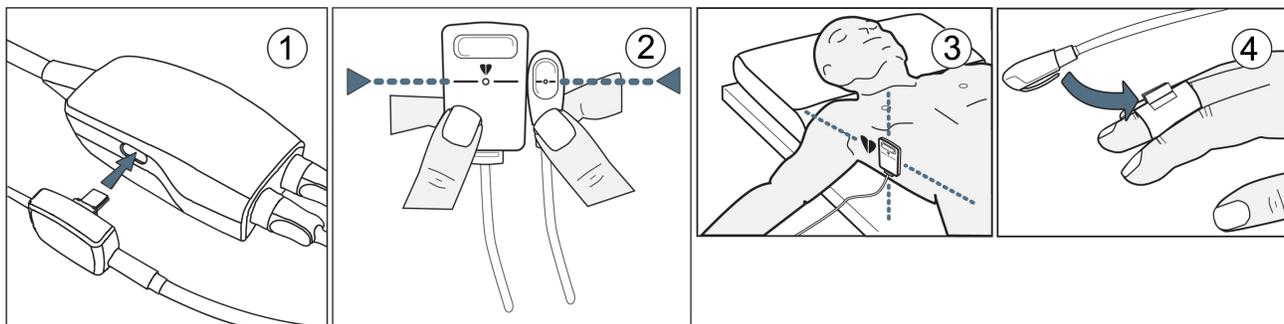

Figure 11-4 Heart reference sensor application
- 1 Connect the HRS to the pressure controller. See ① in figure 11-4.
- 2 Vertically align both ends of the HRS and touch the zero button. See ② in figure 11-4.
- 4 Apply the heart end of the HRS to the patient at phlebostatic axis level by using an HRS clip. See ③ in figure 11-4.
- 5 Attach the other end of the HRS to the finger cuff. See ④ in figure 11-4